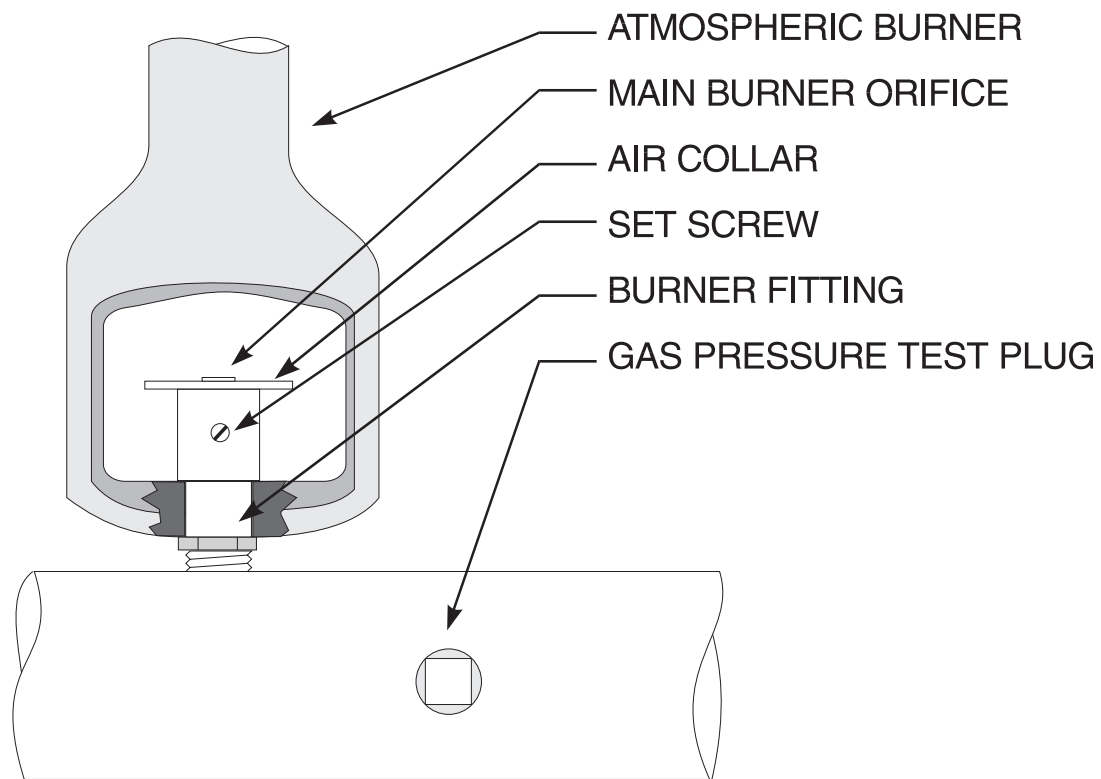

Figure 1-4 Gas Manifold with Burner
- c. Remove the manifold pressure tap plug and connect an accurate pressure gauge (range of 0-16" w.c. in 0.1" increments) or manometer (Figure 1-4).
- l. Unlock the air collars by loosening the set screw for the collars. (Figure 1-4)